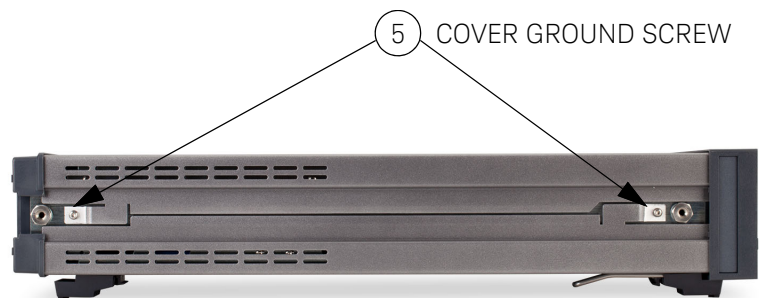

Figure C-3 Covers ground screws
- 7 Use the #TX10 Torx driver to remove the top and bottom covers ground screws, as shown in Figure C-3.
- 7 Refer to Figure C-3. Turn the instrument so its left side faces you. Use the #TX10 Torx driver to reinstall the top and bottom covers ground screws.